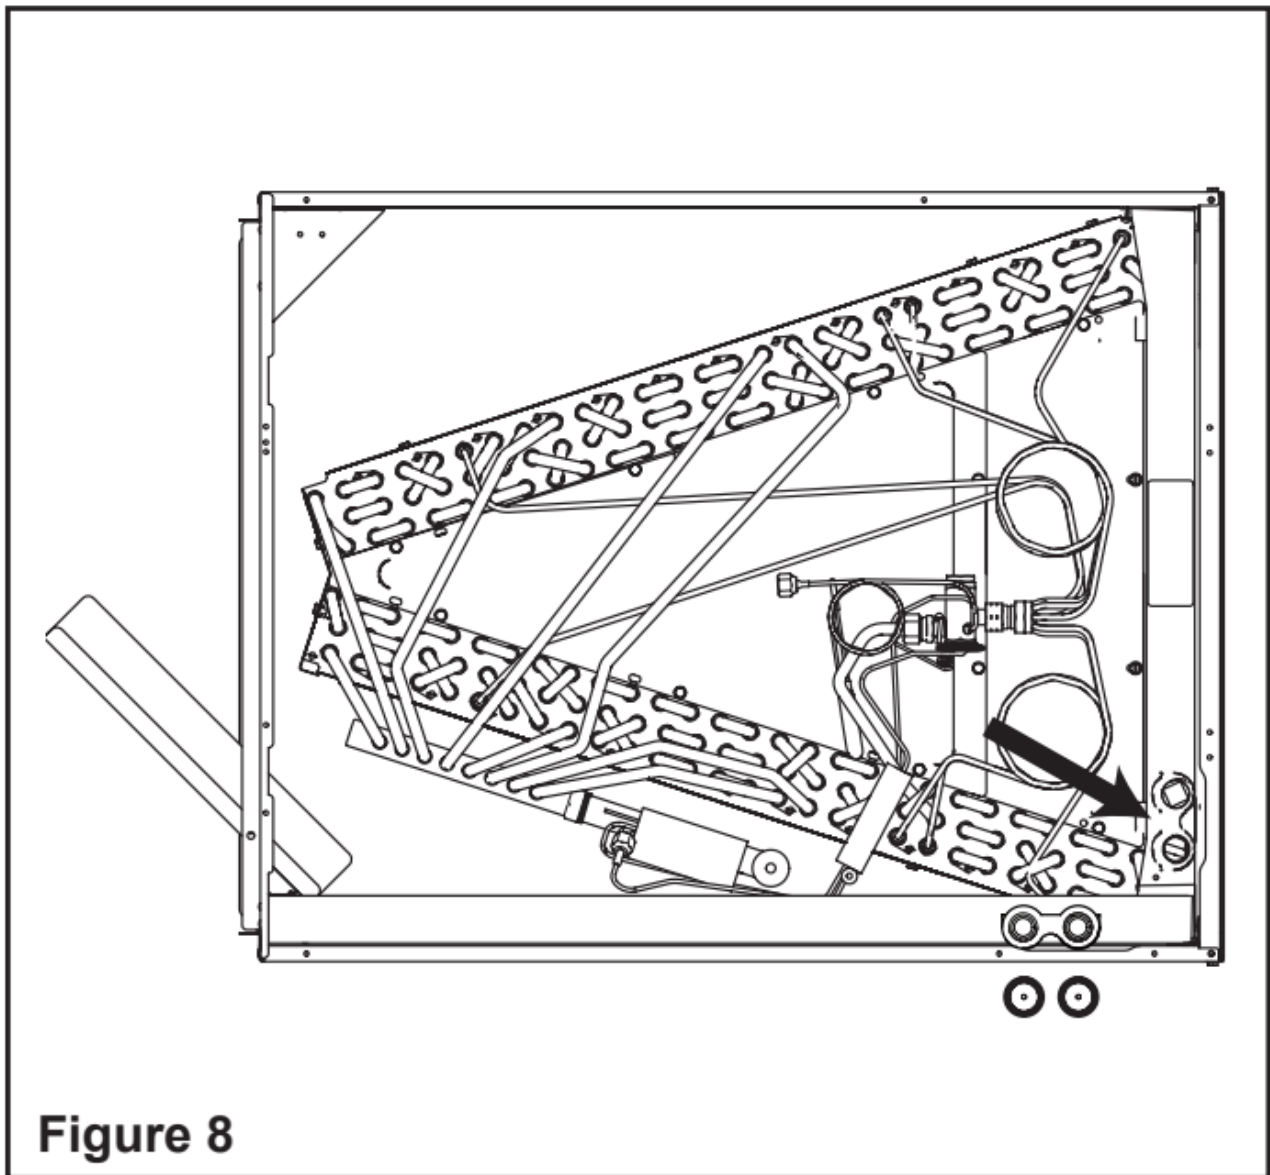

Figure 8
7. Remove the Side-Pull Plugs from the Horizontal Drain Pan and install into downflow drain pan as shown in Figure 8. Put front panels back on.